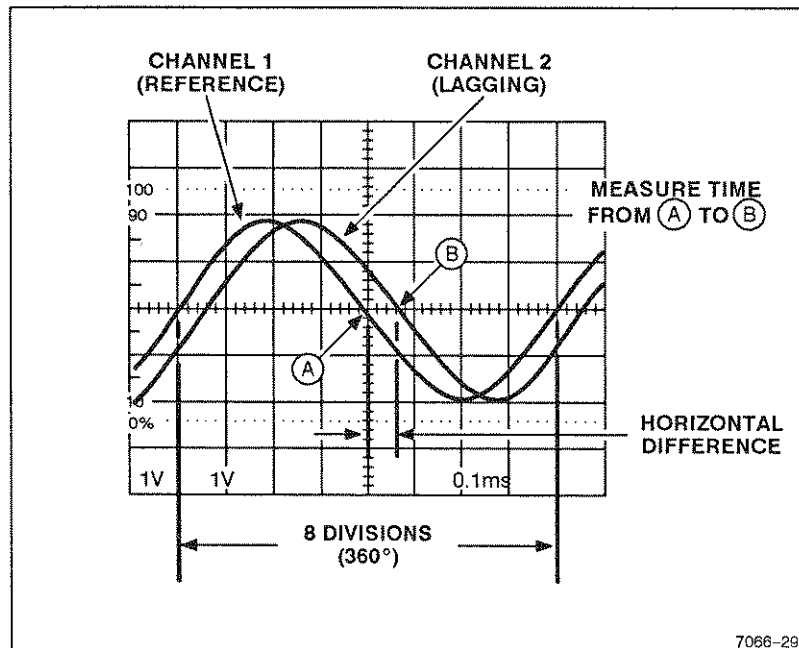

Figure 6-8. Phase difference.
9. Position the displays and adjust the SEC/DIV Variable control so that one reference-signal cycle occupies exactly eight horizontal graticule divisions at the 50% rise-time points (see Figure 6-8). Each division of the graticule now represents  $45^\circ$  of the cycle ( $360^\circ \div 8$  divisions), and the horizontal graticule calibration can be stated as  $45^\circ$  per division.
EXAMPLE: The horizontal difference is 0.6 division with a graticule calibration of  $45^\circ$  per division as shown in Figure 6-8.
EXAMPLE: If the sweep speed were increased 10 times with the magnifier (X10 Magnifier out), the magnified horizontal graticule calibration would be  $45^\circ/\text{division}$  divided by 10 (or  $4.5^\circ/\text{division}$ ). Figure 6-9 shows the same signals illustrated in Figure 6-8, but magnifying the displays results in a horizontal difference of 6 divisions between the two signals.